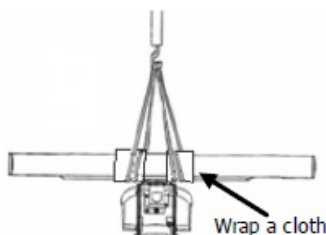

Fig 2-6 X-band
- **When lifting the X-band scanner (Fig 2-6 X-band):**